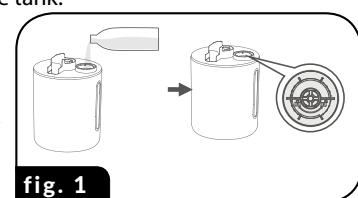

fig. 1
1. Remove the outlet lid (10) from the water tank (6).
2. Detach the water tank (6) from the base (1) using the water tank handle (9) and turn it bottom up. Remove the water filler plug (7) in the bottom of the tank.
3. Pour up to 5 litres of cold (preferably demineralised) water in the tank (fig. 1), with water temperature not exceeding 40°C. Replace and close the plug (7).
4. Turn the tank and attach it to the base (1). Once the tank is attached, the two bars on the base enclosure must be aligned with the two bars on the tank enclosure.